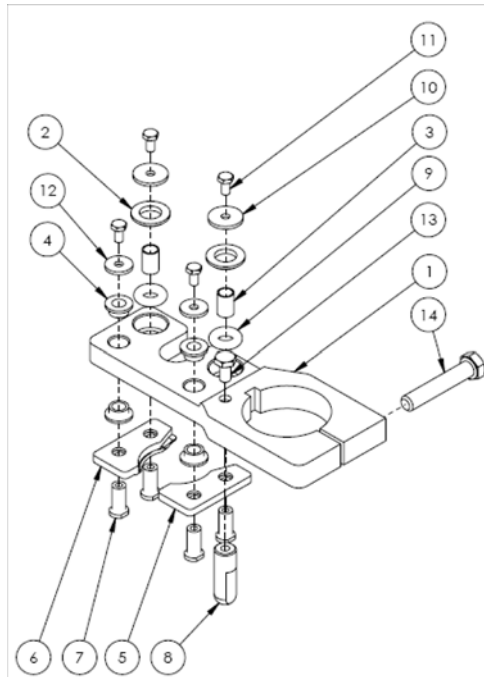

Figure 65. Disassembly of Capper Assembly
Check the Jaw-Cap-Left (D) and Jaw-Cap-RH (C) for play. If there is no movement in any direction other than rotation around points A and B, or “O” Rings (J) (See Figure 65), the Flange Bearings (Top and Bottom) are worn.